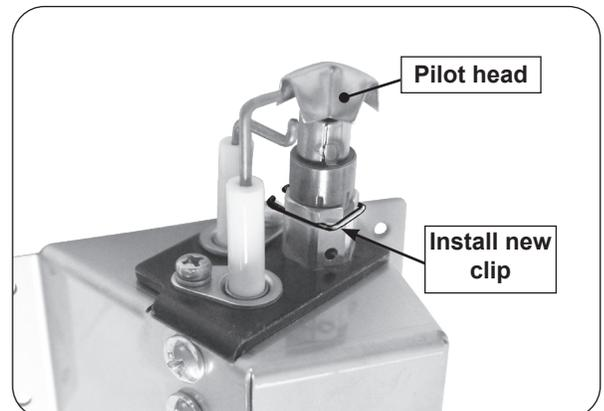

Fig. 3-4 Install new pilot clip
7. Install the new pilot clip included with the conversion kit (see Fig. 3-4).